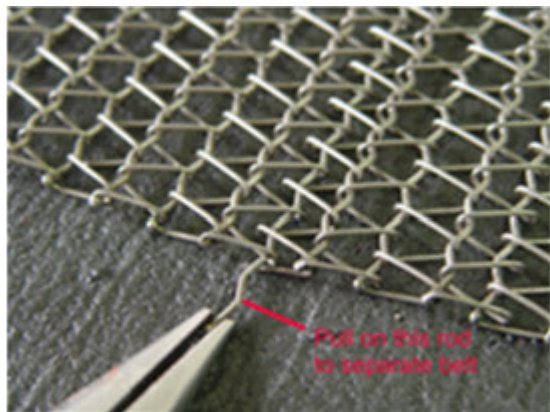

Figure 7-16 Remove belt wire
2. Remove the wire by pulling straight through the belt (Figure 7-16) and retain for later splicing.